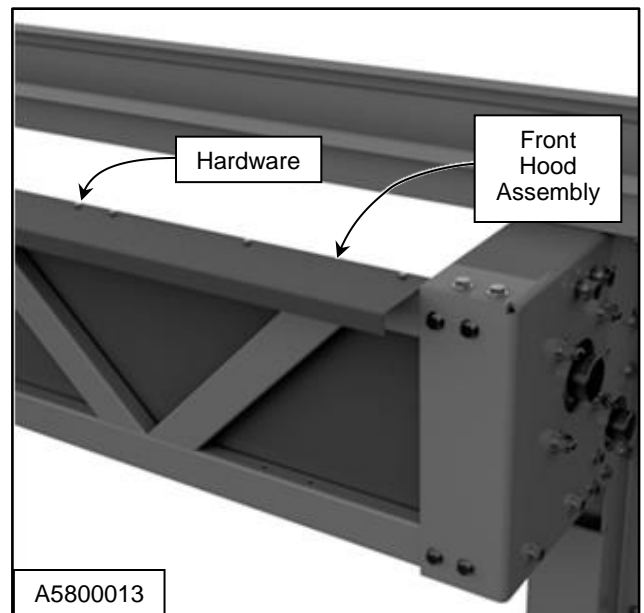

Figure 36
3. Install two front hood pieces onto the front truss assembly. Use 1/4-14 x 3/4-in. hex washer self-drilling screws. (See Figure 36)